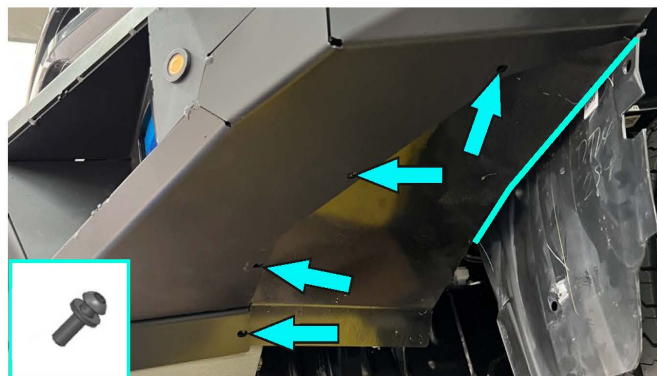

Fig.62
61. Install flaps (item 28, 29) using screws M6x20, washers 6 (item A, H) onto the bumper body on each side. \*Tighten hardware after that. Push the flap to plastic fender and mark future cutting line. Cut plastic fender following marked cutting line using jig-saw or shears (fig. 62).